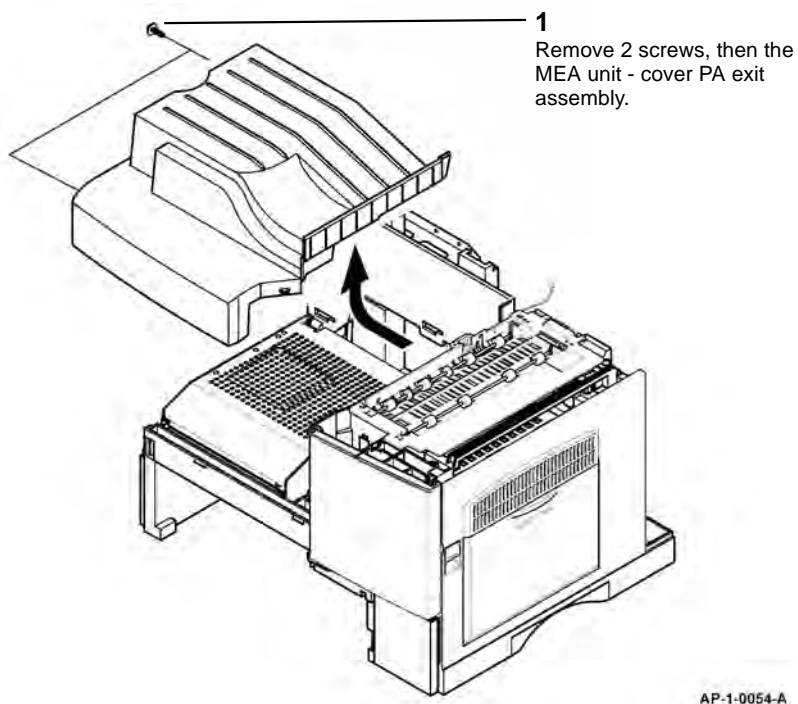

Figure 1 MEA unit - cover PA exit assembly removal
2. Remove the MEA unit cover PA exit assembly, Figure 1.